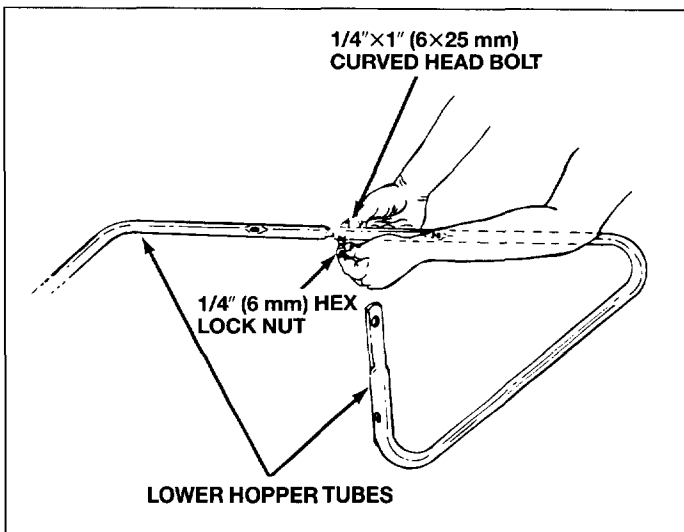

Fig. 16
5. Assemble the two lower hopper tubes as shown in figure 16. Secure with 1/4" x 1" (6x25 mm) curved head bolt and 1/4" (6 mm) hex lock nut. See figure 16.